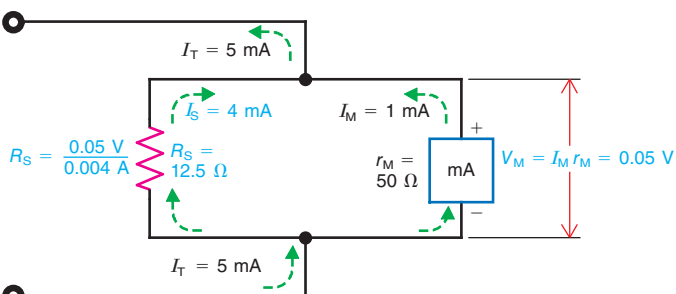

Figure 12-4 Calculating the resistance of a meter shunt. R_S is equal to V_M/I_S . See text for calculations.
Another example is shown in Fig. 12-4. In general, the shunt resistance for any range can be calculated with Ohm's law from the formula
Use the values of current for full-scale deflection, as these are known. In Fig. 12-4,
1. Find V_M . Calculate this for full-scale deflection as $I_M \times r_M$. In Fig. 12-4, with a 1-mA full-scale current through the 50- Ω movement,
2. Find I_S . For the values that are shown in Fig. 12-4,